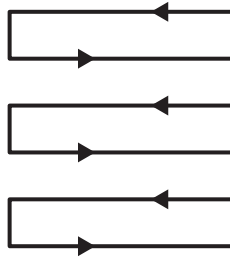

Fig. 20
5. Mow in slight overlapping rows. The most effective pattern for mowing lawns is straight lines along one of the sides. This will keep the rows even and ensures that all the lawn is cut without missing any spots (Fig. 20).